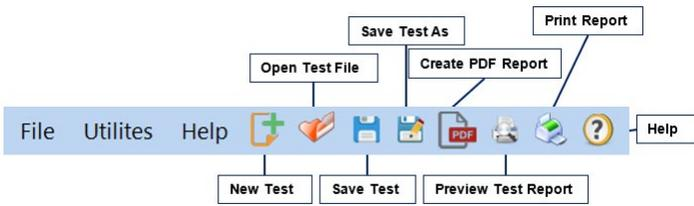

Figure 6: Toolbar
3. Eject the USB containing installation files and insert the USB security key. Open the Consolidation Test Software. Click **Help** along the toolbar (Figure 6) then select **Activation** from the drop-down menu. Enter the provided license number, USB ID, and activation code. The software will run normally for 30 days before this information is required to continue use. Activation information can be entered at any point within the first 30 days after installation.
The top toolbar (Figure 6) of the Consolidation Test Software consists of icons used to start, open, save, create, and print test reports. These commands are also listed under the **File** dropdown menu.